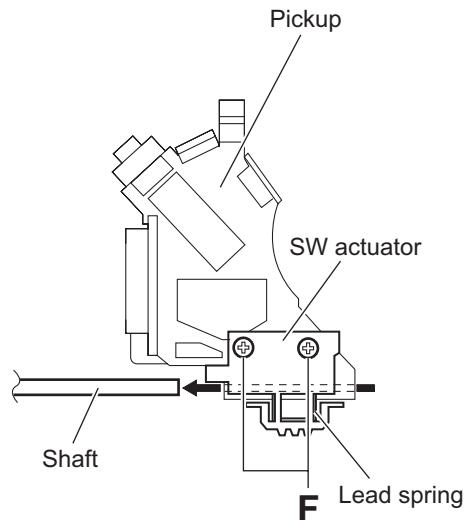

Fig.8
- (8) From the bottom side of the pickup, remove the two screws **F** attaching the SW actuator and lead spring. (See Fig.8.)
- (9) Pull the shaft out of the pickup. (See Fig.8.)
- (1) Attach the shaft, SW actuator and lead spring to the pickup. (See Fig.8.)